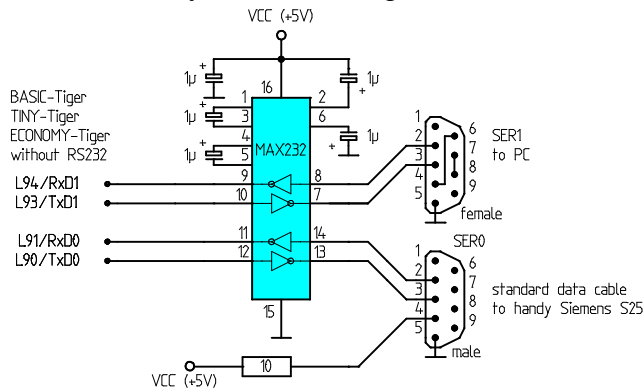

Fig. 4 Solution with topped level converter for Tigers without RS232-interface
- You want to have a stand-alone construction using a Tiger without RS232-interface, but still use the standard data cable for the S25. You then have to build in a MAX232 as level converter into your device (Figure 4).